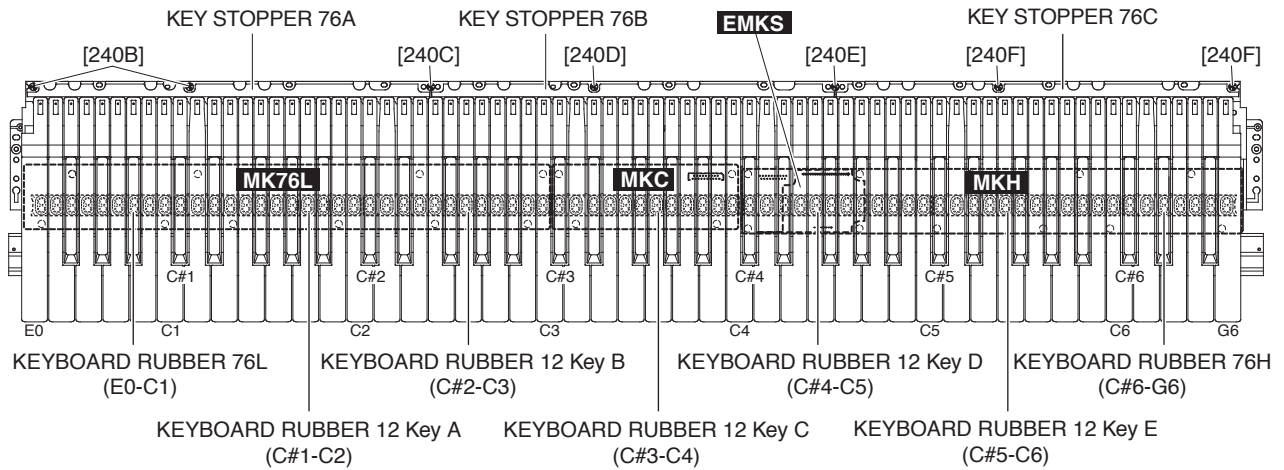

Fig. 19
26-2 Remove the key stoppers corresponding to the keys to be replaced. (Table 1, Fig. 19)
(Table 1, Fig. 19)
- 28-2-1 Remove the key stoppers and keys listed in the table 2, corresponding to the keyboard rubbers to be removed. (Table 2, fig. 19) (See procedure 26.)
- 28-2-2 Pull out the keyboard rubber. (Fig. 19)
- 28-4-1 Remove the key stopper 76 B. (Table 1, Fig. 19)